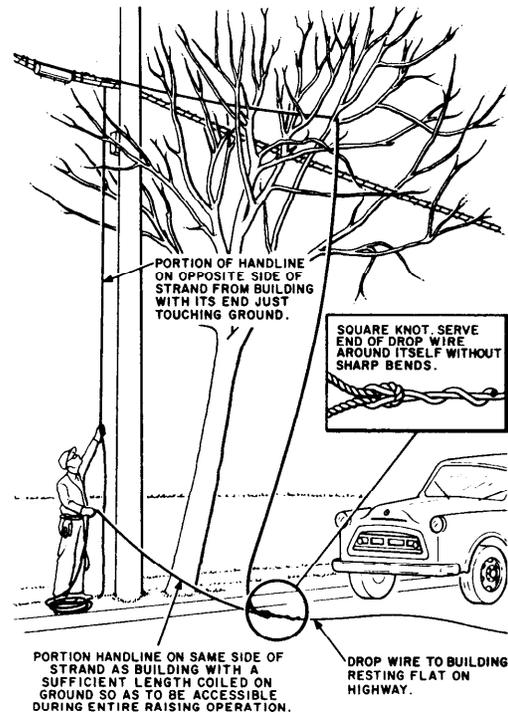

Fig. 10 - Drop Wire Tied to Handline
- (1) Warning: The handline shall not overhang the street unless guarded. If practical, position the company truck so it will shield the handline. Place handline over strand, guard arm, drive hook, or cross arm and among the tree branches as illustrated in Fig. 10, so the drop wire may be raised into position. A wire raising tool may be used to facilitate this operation. After the handline is placed, tie it off to the pole or lower rungs of the ladder to avoid interference with pedestrians or vehicles.
- (g) With the handline in place, one technician maintains a strain on the handline while the other technician secures the drop wire to the handline as shown in Fig. 10. Any slack in the handline and drop wire is to be pulled taut and secured.